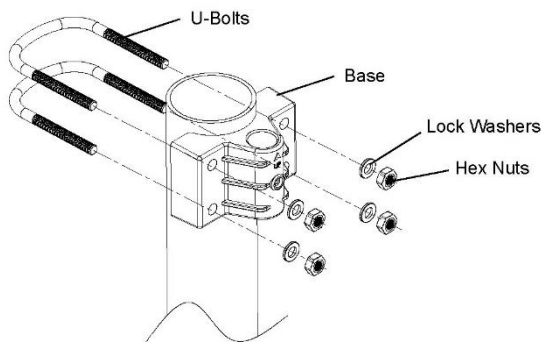

Figure 3: Sensor package mounting diagram 6-1
1. Install the base on a pole (1.25inch~2inch) as Figure 3.